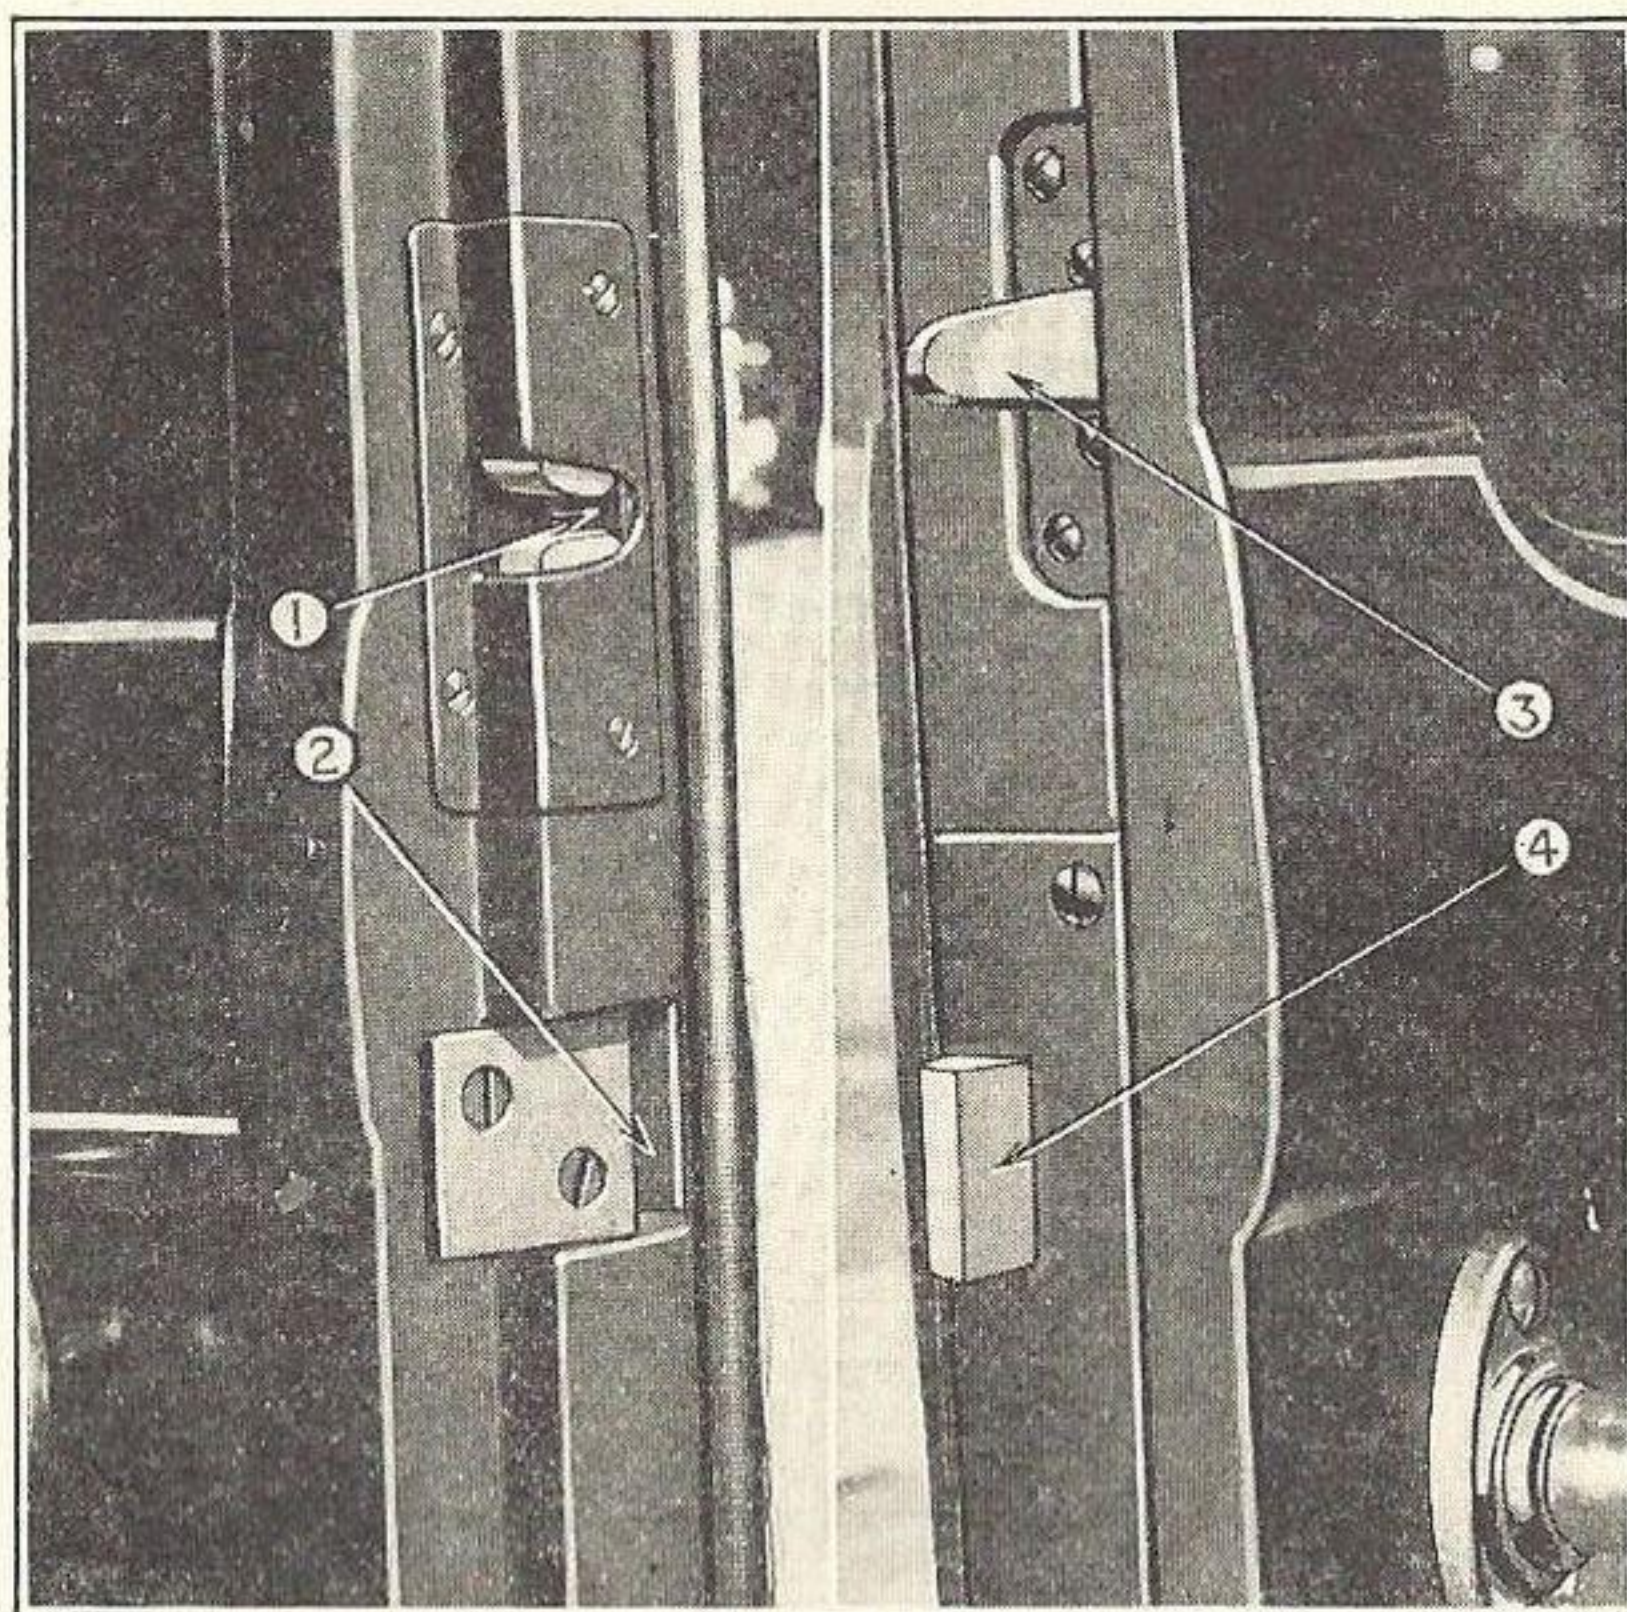

Fig. 14
2. Door lock strikers. Refer to Fig. 14.
3. Door dovetails. Refer to Fig. 14.